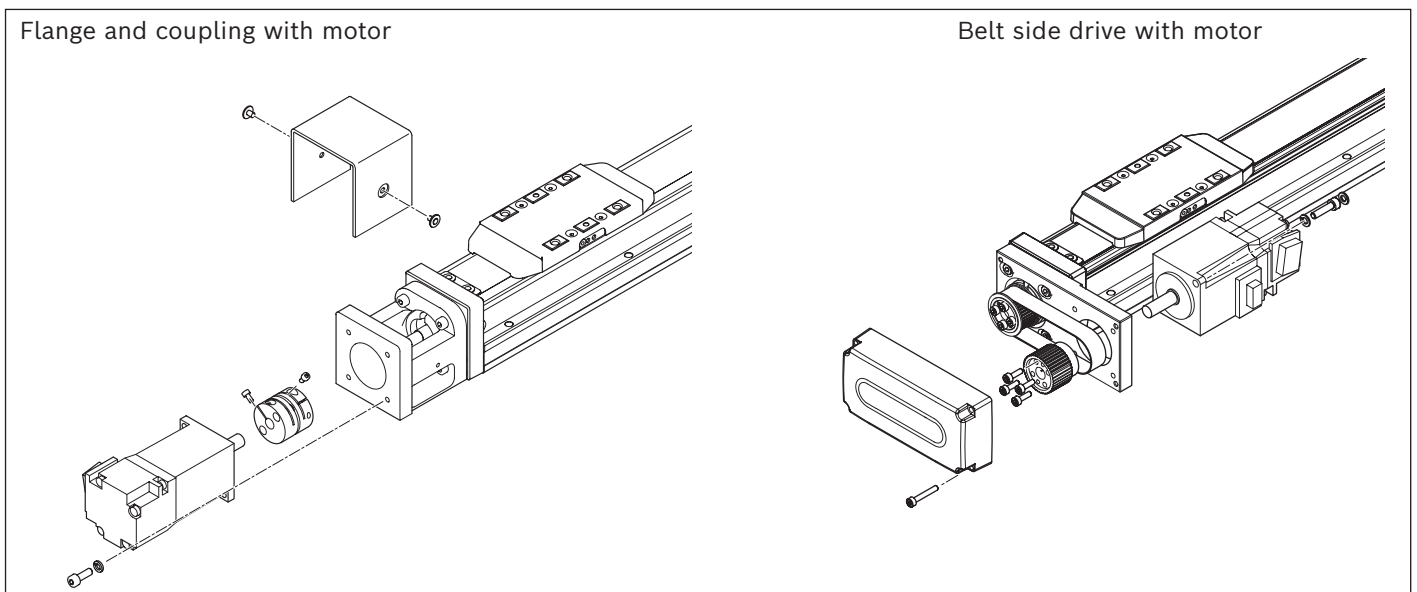

Fig. 5: Drive types
- ▶ Do not fasten or support the product at the end blocks/cross ties (1). The frame is the load-bearing part. If possible, support it over the entire length ➔ Fig.5.